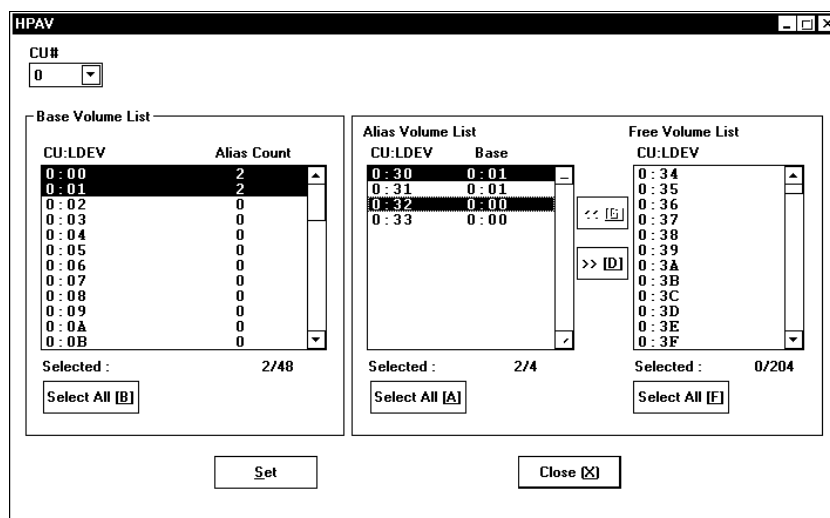

Fig. 13.5 HPAV main panel (Multiple aliases will be canceled)
4. From the Alias Volume List box, select the desired alias(es). (See Fig. 13.5)